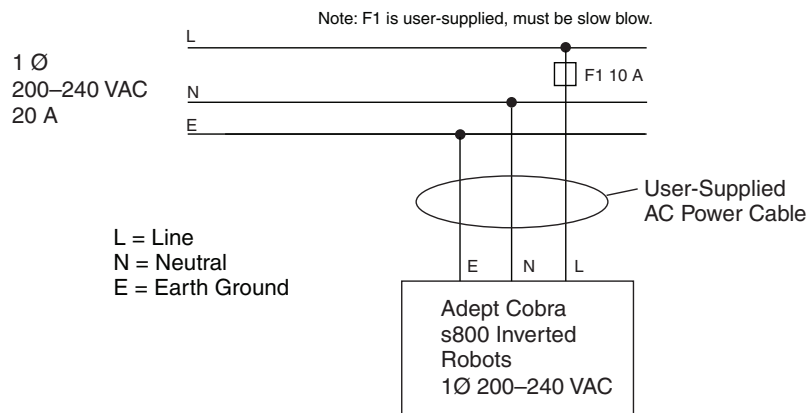

Figure 3-3. Typical AC Power Installation with Single-Phase Supply
1. Connect the unterminated end of the AC power cable to your facility AC power source. For details, see Figure 3-3 and Figure 3-4. Do not turn on AC power at this time.